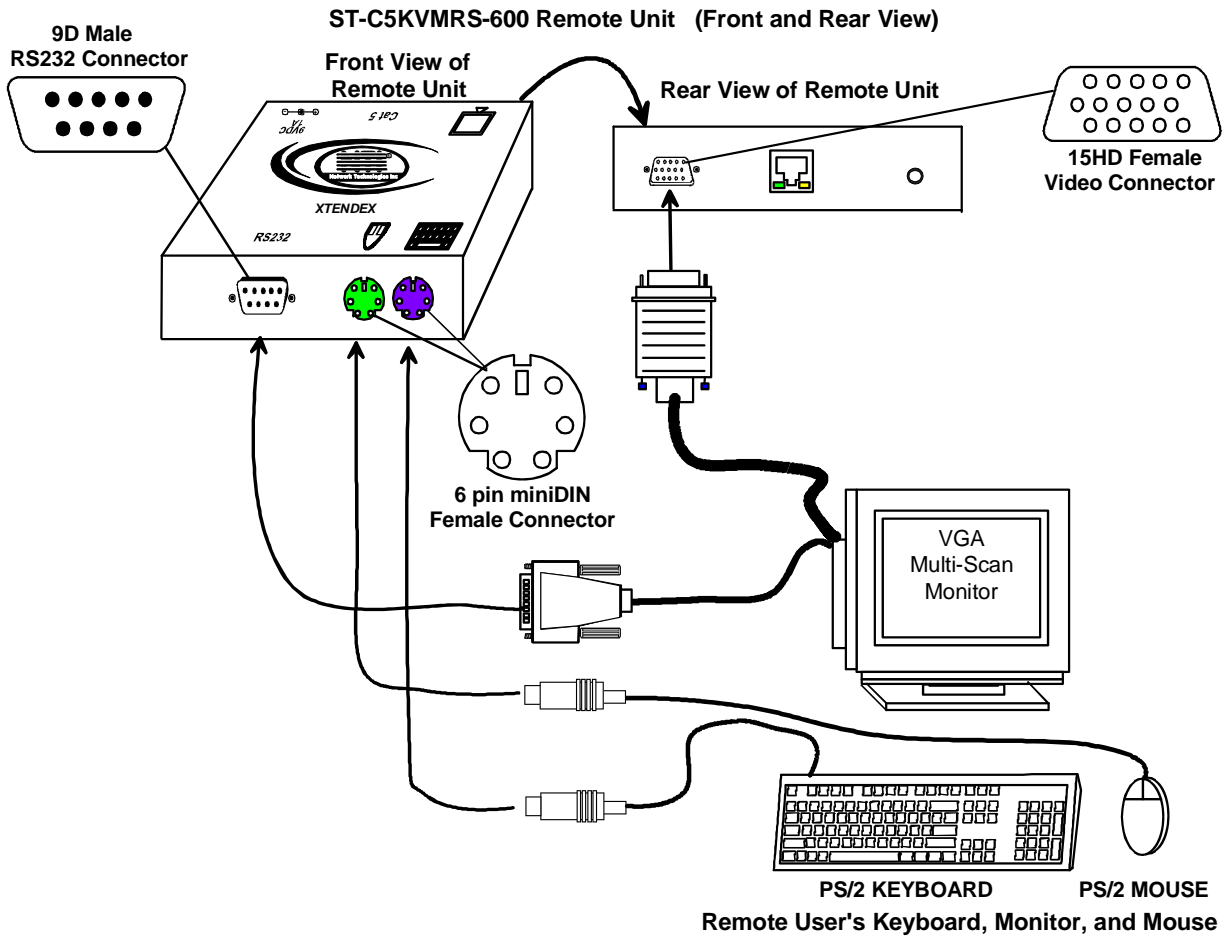

Figure 9- Connect the Extended Components to the Remote Unit
3. Connect the device(s) to the Remote Unit (see Figure 9)(KVM models only).
5. If the Remote Unit has audio support, connect the cable from the remote speakers to the 3.5mm stereo audio jack on the Remote Unit. (See Figure 9)